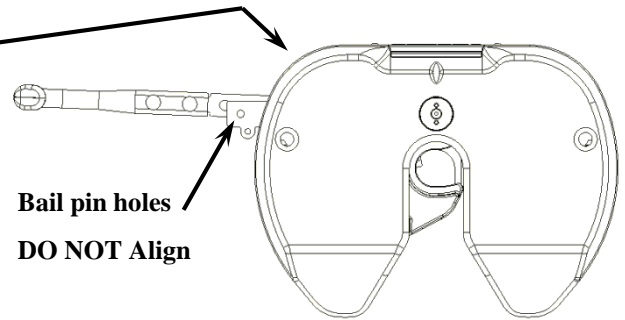

FIG. 9
- D. Make sure head is in Ready-to-Receive position (pg. 4, fig. 9) by pulling the handle out fully until an audible “CLICK” is heard